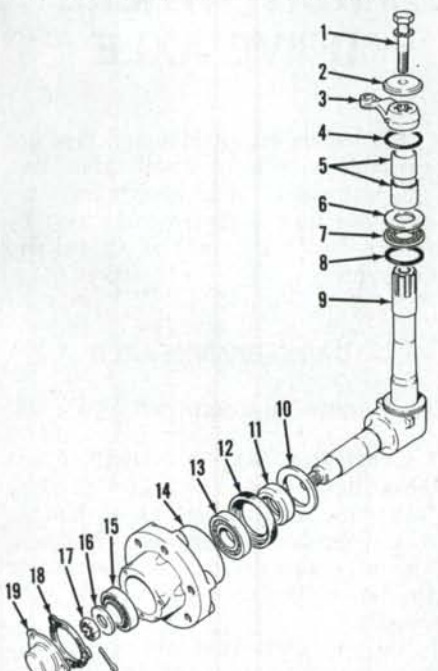

Fig. 1—Exploded view of typical front spindle assembly showing component parts and their relative positions.
1. A typical front wheel spindle, wheel hub and bearing assembly are shown in Fig. 1.
To adjust wheel bearings, tighten slotted nut (17—Fig. 1) to 95 N·m (70 ft.-lbs.) torque while turning the wheel. Loosen the nut, then retighten to 40 N·m (30 ft.-lbs.) torque while turning the wheel. Make certain wheel turns freely. Loosen nut, if necessary, to align hole for cotter pin, then install a new pin.
To remove spindle (9—Fig. 1), support front of tractor and remove wheel from
Remove spindle and upper "O" ring (4—Fig. 1). Remove thrust washer (6) on all models and thrust bearing (7) on 1490, 1494, 1594 and 1690 models. On all models remove lower "O" ring (8).
Reinstall by reversing removal procedure making certain thrust bearing (7—Fig. 1) and thrust washer (6) are in proper sequence on 1490, 1494, 1594 and 1690 models. On all models, tighten steering arm retaining cap screw (11) to 163 N·m (120 ft.-lbs.) torque.